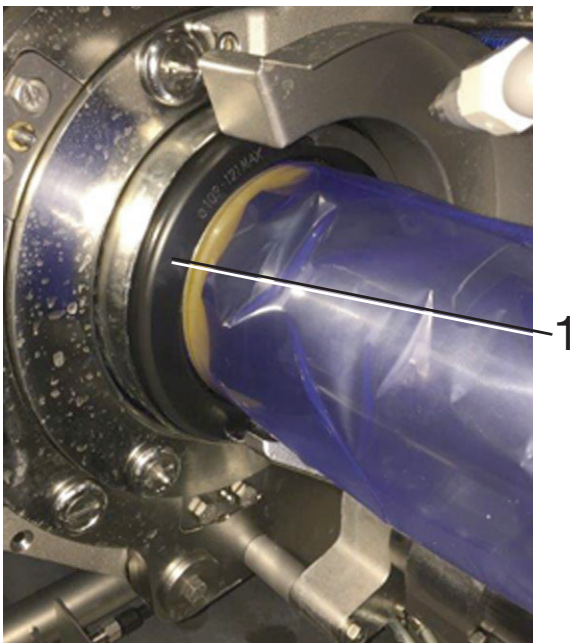

Fig. 1-7 1 “Inner brake protective ring”
- When coupled with a TSA and using an inner brake, the “inner brake protective ring” prevents anyone reaching into the closing and separator area. The protective ring (1) is inserted into the casing brake holder instead of the casing brake. The protective ring only fulfils its safety function if it is suitable for the calibre of the filling system. (Fig. 1-7)